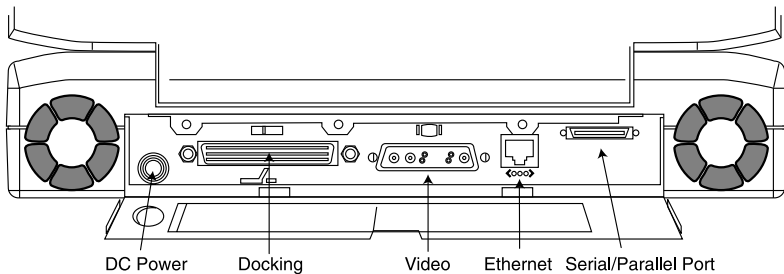

Figure 3-9 UltraBook Rear Access port
2. Attach a twisted-pair cable to the UltraBook's 10-Base T/100-Base X Ethernet connector (see Figure 3-9).
2. Connect the male end of the I/O break-out cable to the UltraBook's 50-pin connector on the rear panel (see Figure 3-9).